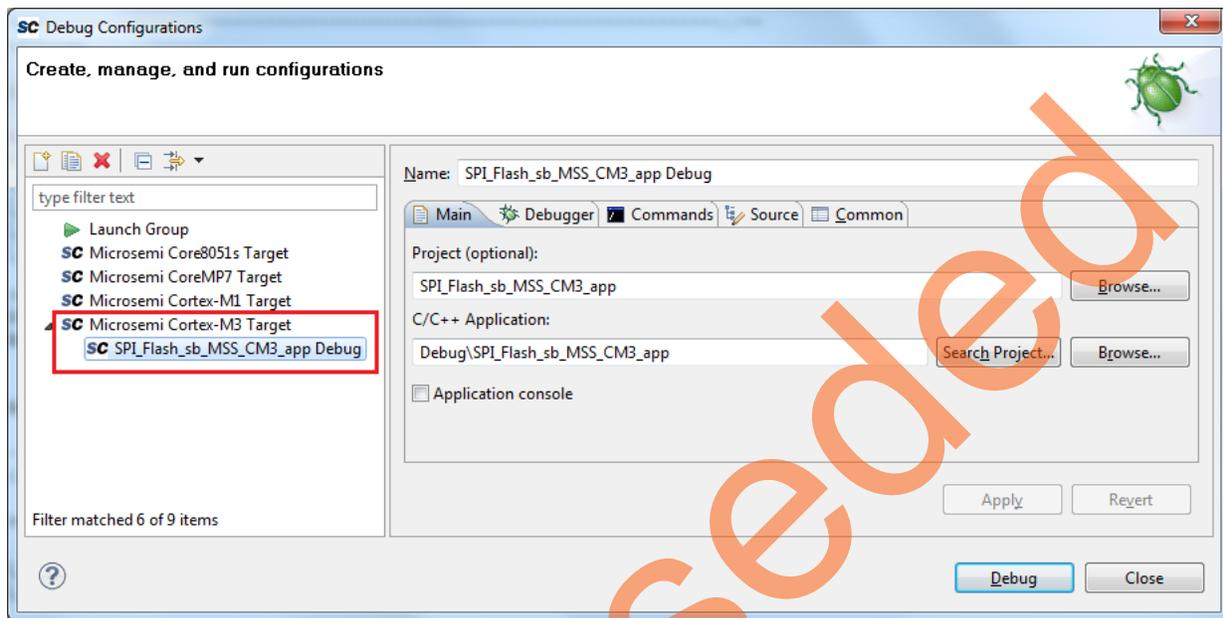

Figure 27 • Debug Configurations
1. Select **Debug Configurations** from the **Run** menu of the SoftConsole. The **Debug Configurations** dialog box is displayed. Double-click **Microsemi Cortex-M3 Target** to view the configurations, as shown in **Figure 27**.